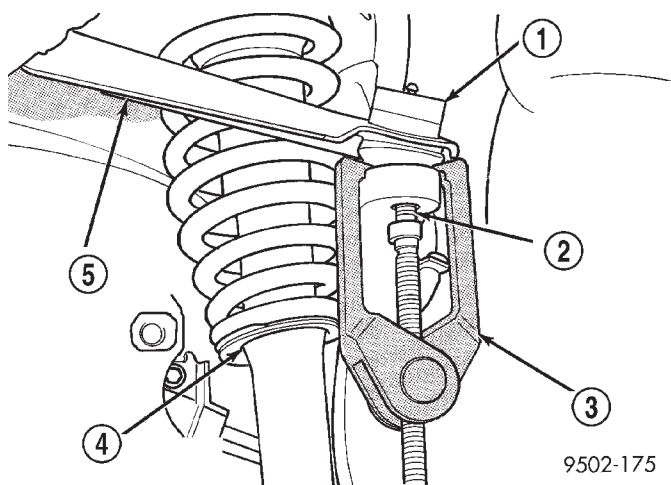

Fig. 24 Ball Joint Stud Removal From Steering Knuckle
(16) Remove the upper ball joint stud from the steering knuckle using Puller, Special Tool, C-3894-A (Fig. 24).
(17) Remove steering knuckle from vehicle.